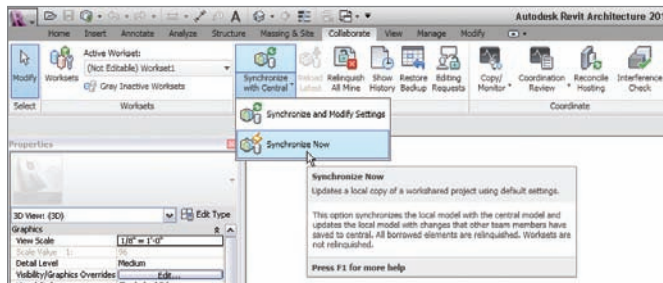

FIGURE 22.7 Clicking the Synchronize Now button
7. On the Collaborate tab, click Synchronize With Central > Synchronize Now, as shown in Figure 22.7. This saves any changes made.